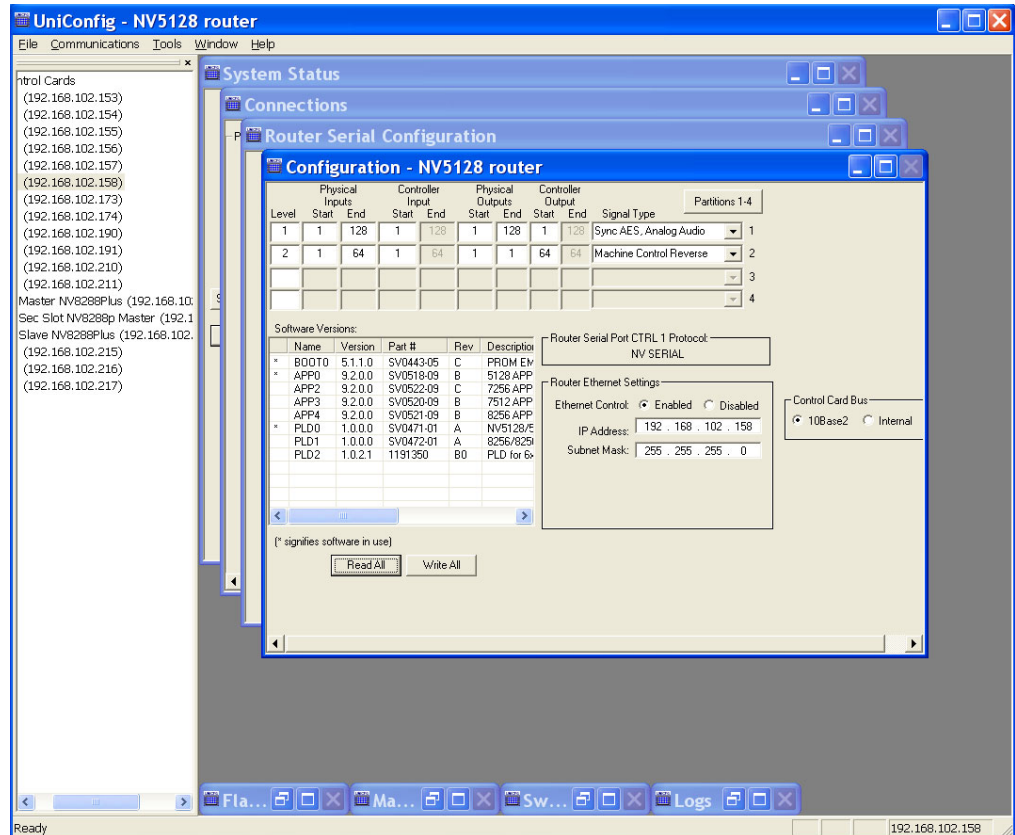

Figure 7-1. Configuration Window with Control Card Pane (Left Side)
The 'Control Cards' pane appears in the left-hand section and the 'Configuration' window appears in the right-hand section of the screen, as shown in Figure 7-1.
- 2 Open the 'Control Cards' pane. (See Control Cards Pane on page 7.) The 'Control Card' pane appears, as shown in Figure 7-1.
- 2 Open the ‘Control Cards’ pane. (See Control Cards Pane on page 7.) The ‘Control Card’ pane appears, as shown in Figure 7-1.
- 5 Again from the menu bar, select ‘Windows > Configuration’. The ‘Configuration’ window appears, as shown in Figure 7-1.
- 3 From the menu bar, select ‘Windows > Configuration’. The ‘Configuration’ window appears, as shown in Figure 7-1.